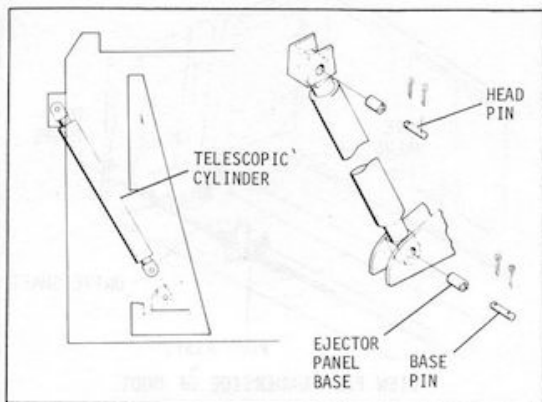

Figure 3-17. Telescopic Cylinder Removal
- a. Remove pin at cylinder base, attaching to ejector panel. (See figure 3-17).